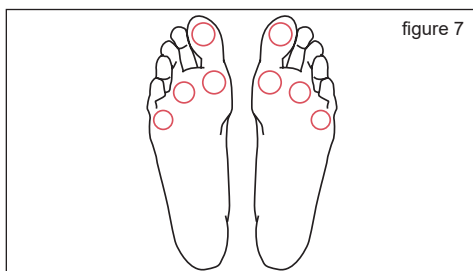

figure 7
**For Diabetic Foot Screening,** apply the 10 gram (5.07) monofilament to the foot test sites shown in (fig. 7).